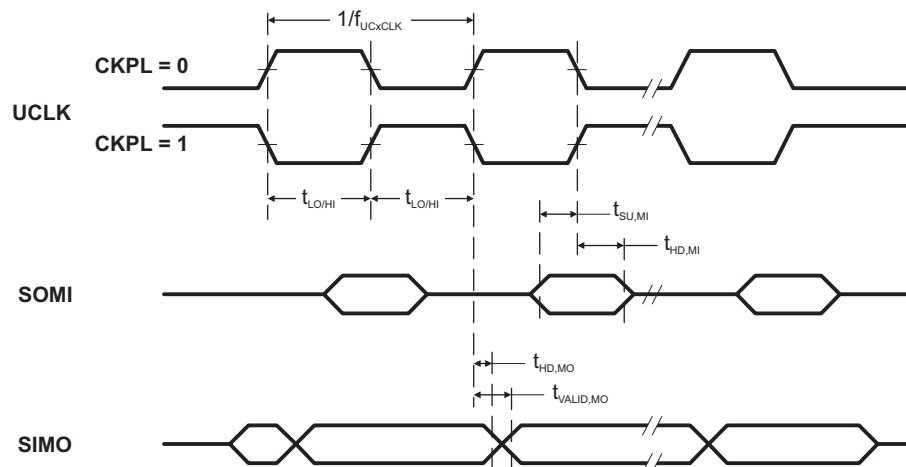
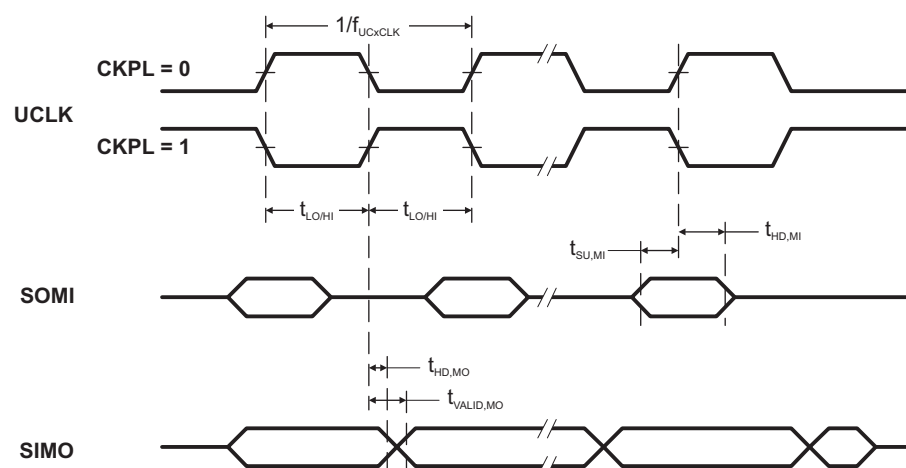

Figure 12. SPI Master Mode, CKPH = 0
Figure 13. SPI Master Mode, CKPH = 1
(see Note ⁽¹⁾, Figure 12 and Figure 13)
- (1) f_{UCXCLK} = 1/2t_{LO/Hi} with t_{LO/Hi} ≥ max(t_{VALID,MO(USCI)} + t_{SU,SI(Slave)}, t_{SU,MI(USCI)} + t_{VALID,SO(Slave)}). For the slave's parameters t_{SU,SI(Slave)} and t_{VALID,SO(Slave)} see the SPI parameters of the attached slave.
- (2) Specifies the time to drive the next valid data to the SIMO output after the output changing UCLK clock edge. See the timing diagrams in Figure 12 and Figure 13.
- (3) Specifies how long data on the SIMO output is valid after the output changing UCLK clock edge. Negative values indicate that the data on the SIMO output can become invalid before the output changing clock edge observed on UCLK. See the timing diagrams in Figure 12 and Figure 13.
- Specifies the time to drive the next valid data to the SOMI output after the output changing UCLK clock edge. See the timing diagrams in Figure 12 and Figure 13.
- Specifies how long data on the SOMI output is valid after the output changing UCLK clock edge. See the timing diagrams in Figure 12 and Figure 13.